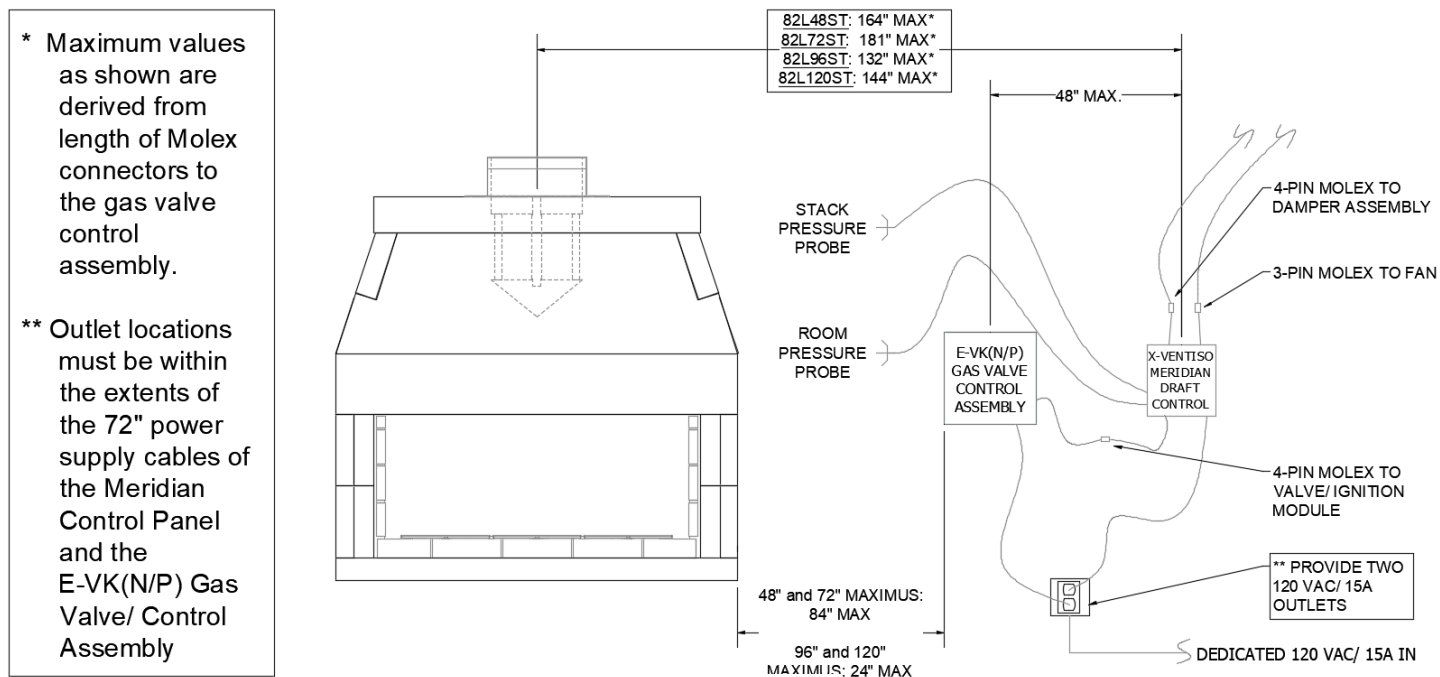

FIGURE 21
- The location of the Meridian Control Panel is dependent upon the fireplace model and must be within the values shown in **(Figure 21)**. The distances shown are as measured horizontally from the fireplace flue-outlet.
NOTE: the Isoflames Linear Burner’s gas valve control box location is also dependent upon the fireplace model/ burner size. It must be located within 84” of the sidewall of the firebox for the 48” and 72” Maximus Linear and within 24” for the 96” and 120” Maximus Linear **(Figure 21)**.
- Two 120 VAC / 15A outlets must be provided at the chosen location on a dedicated circuit; one for the Meridian Control Panel, the other for the Gas Valve Control Box . These outlets must be within the extent of the 72” power supply cables of the Meridian Control Panel and the E-VK(N/P) Gas Valve Control assembly **(Figure 21)**.
- 3) Connect the top port of the Meridian Control Panel's pressure ports with the supplied tubing to the "Stack Pressure" vent probe (**Figure 21, 22 & 24**). This will be connected to the chimney at a location 12" above the anchor plate.
- 4) Connect the lower port of the Meridian Control Panel's pressure ports with the supplied tubing to the "Room Pressure" vent probe (**Figure 21, 23 & 24**). The other end will be connected in a suitable location in the room in which the fireplace is installed. This location must be in the same pressure zone as the fireplace opening, and within reach of the supplied tubing's connection to the Meridian Control Panel. Do not locate sensor in close proximity to exterior doors, opening windows, supply air diffusers, or other know air disturbances. The tubing measures 20ft.